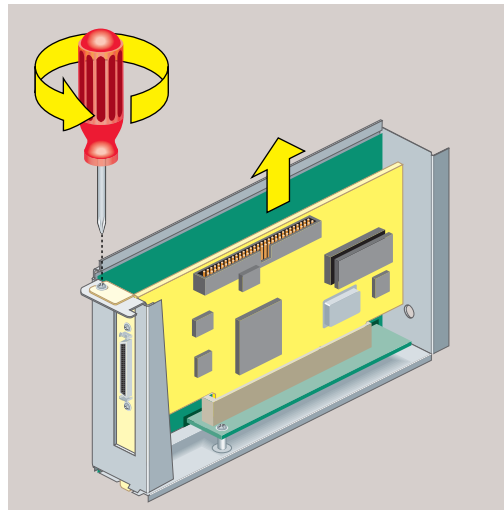

Figure 2-21 Removing the Screw and the PCI Board
4. Remove the screw that secures the board (Figure 2-21). Slide the PCI board out of the tray. It may be a little difficult to remove.